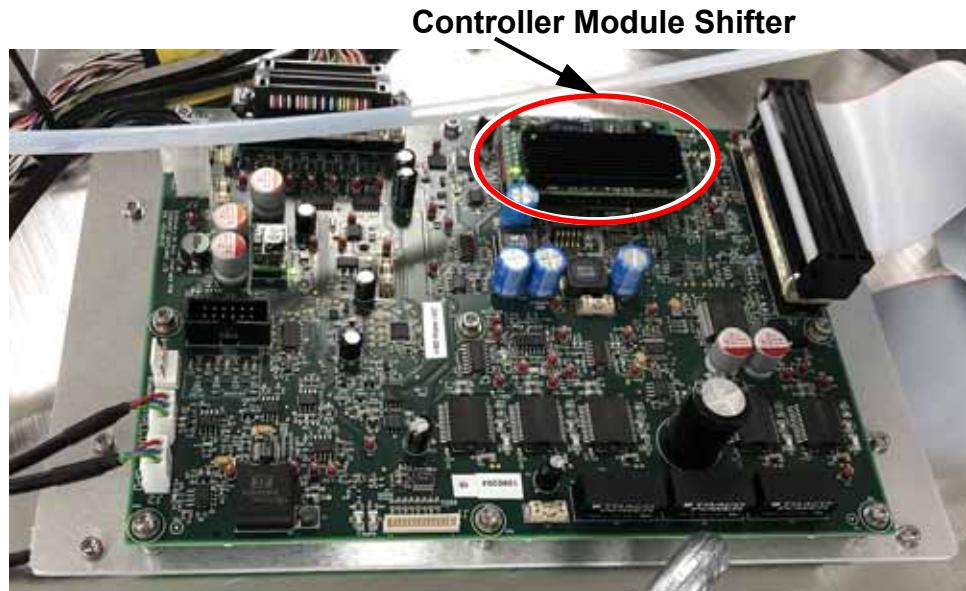

Figure 5.4-10. Bulk Board
5. Locate the Bulk board as shown Figure 5.4-10 "Bulk Board" and remove the Controller Module Shifter.
5. Locate the Bulk Board as shown in the Figure 5.4-10 and disconnect all of the connectors carefully, avoiding pulling on the wires. A thin screw driver might be helpful in removing tight connectors.